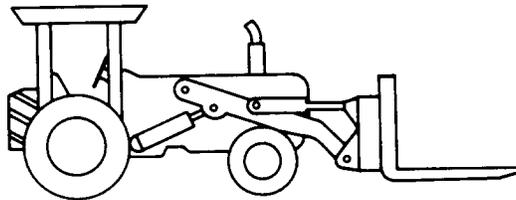

FIGURE 1—
- 4.1.1 Wheel Loader/Tractor with Fork Attachment (see Figure 1)